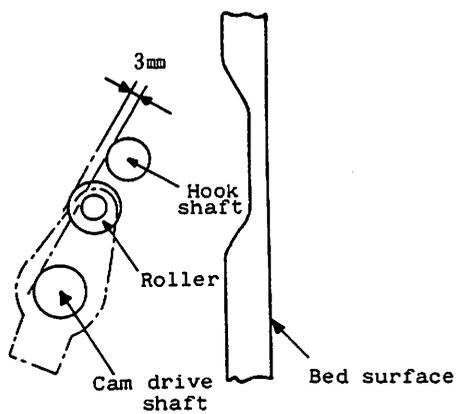

Fig. 11.9
NOTE: The standard position of the cam follower (2) before it is actuated is shown in Fig. 11.9.